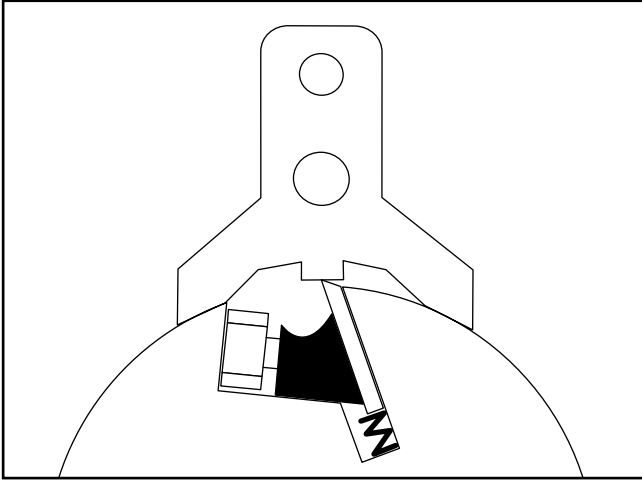

Figure 33. Proper knife setting jig placement.
- Place the knife setting jig over the knife on the cutterhead as shown in **Figure 33**. The knife setting jig will push the knife into position in the cutterhead.